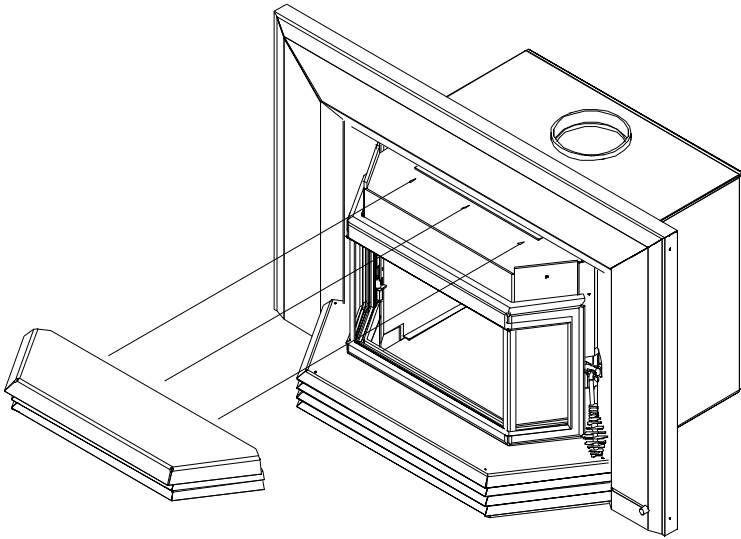

Figure 2.8
9. Cooktop is installed at the factory, Shipping screw must be removed before installation of faceplates. (Figure 2.8)